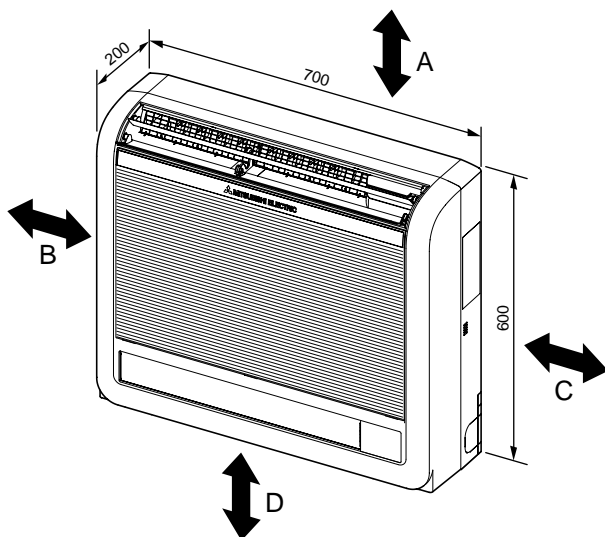

Fig. 2-1
①	Drain hose	1
②	Pipe cover	1
③	Band	2
④	Indoor unit mounting bracket	1
⑤	Fixing screw for ④ 4 x 25 mm	5
⑥	Wood screw for the indoor unit fixation	4
⑦	Washer of ⑥	4
⑧	Felt tape (Used for left or left-rear piping)	1
⑨	MA Remote controller cable	1
2.1. Outline dimensions (Indoor unit) (Fig. 2-1)